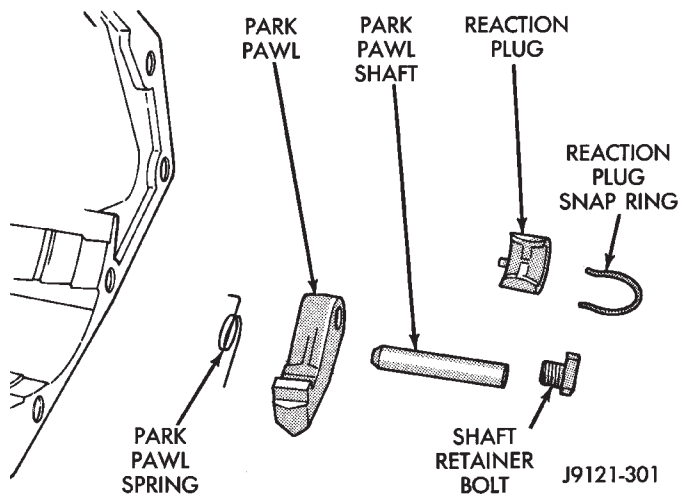

Fig. 14 Park Lock Component Removal
- (14) Remove park pawl retaining bolt and reaction plug snap ring (Fig. 14). Compress snap ring only enough to remove it. Snap ring can be distorted if overcompressed.
- (15) Remove park pawl shaft, park pawl, pawl spring and reaction plug (Fig. 14).